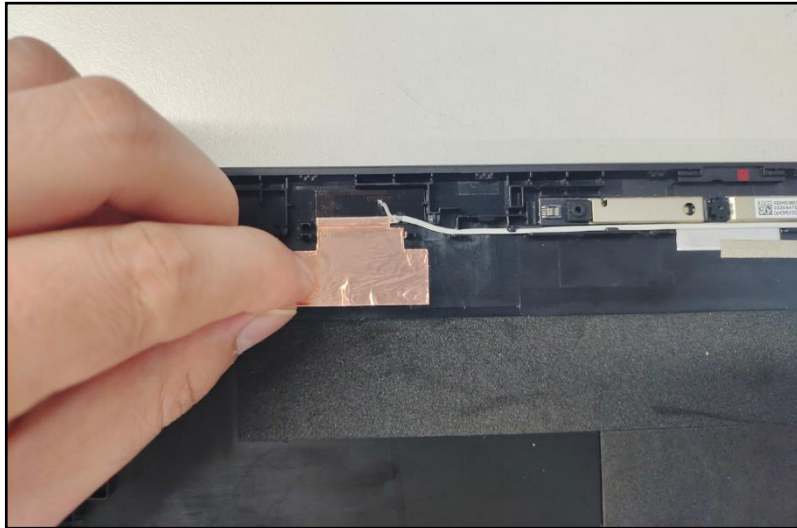

Figure 3-53. Replacing the MAIN Antenna
4. Adhere the grounding foil of the MAIN antenna as marked in yellow (Figure 3-53).